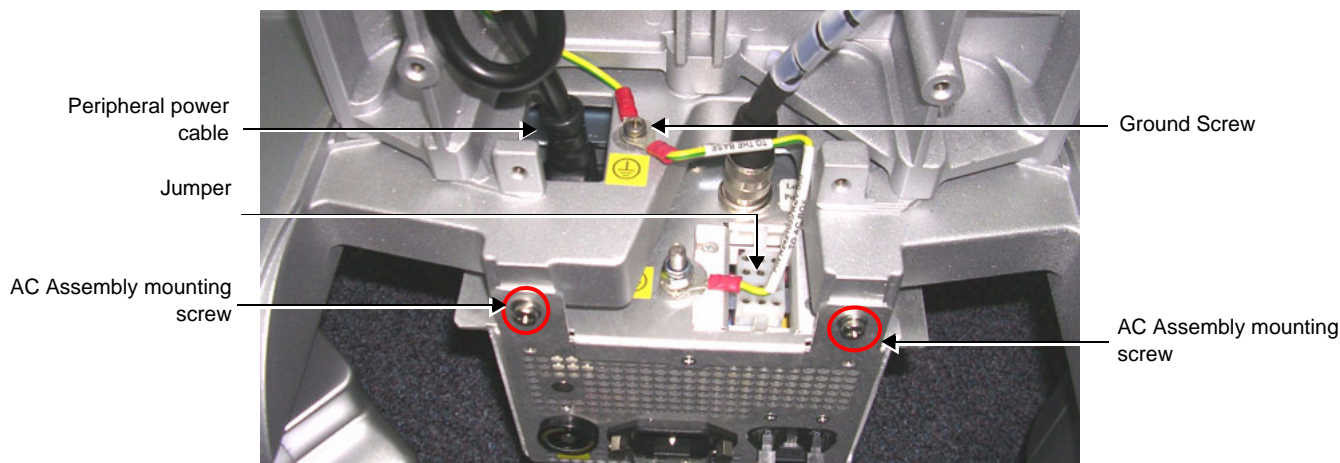

Figure 8-84 AC Distribution Assembly and Cable Sockets
The AC Distribution Assembly is now exposed, as shown in Figure 8-84.
- 6) Unscrew the metal cable fastener from the P1 cable connector (on the *right*) and remove the cable from its socket - see Figure 8-84.
- 7) Disconnect the peripheral power cable from the AC Distribution Assembly - see Figure 8-84.
- 8) Loosen and remove the ground screw fastened to the AC Distribution Assembly - see Figure 8-84.
- 9) Loosen and remove the two AC Assembly mounting screws that secure the AC Distribution Assembly to the mounting bracket on the SafeLock Cart chassis - see Figure 8-84.
- 1) Return the replacement AC Distribution Assembly to its position on the SafeLock Cart chassis and secure it on the mounting bracket using the two screws (previously removed - see Figure 8-84, above).
- 2) Fasten the Ground screw to the AC Distribution Assembly - Figure 8-84, above.
- 3) Reconnect the peripheral power cable to the AC Distribution Assembly - Figure 8-84, above.